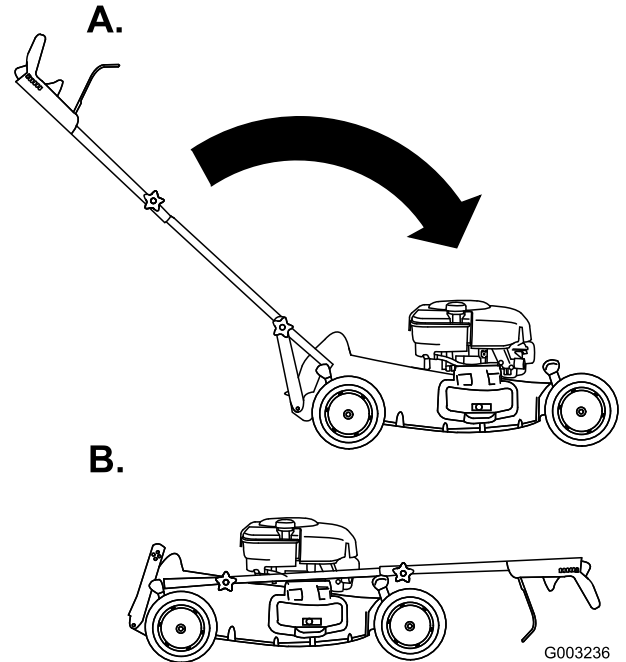

Figure 56
3. Rotate the handle forward (Figure 56).